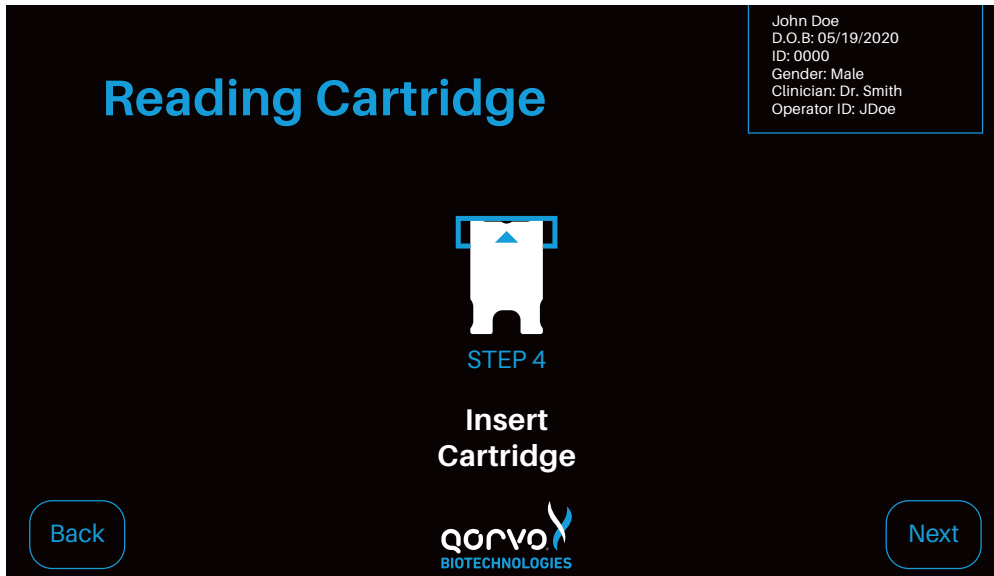

Figure 28
8. Place the cartridge into the instrument by holding the sample-port end with the cartridge label facing up and following the arrow-indicated insert direction displayed on the cartridge label (Figure 28). Gently push the cartridge into the Cartridge Receiver until the instrument accepts and draws in the cartridge.